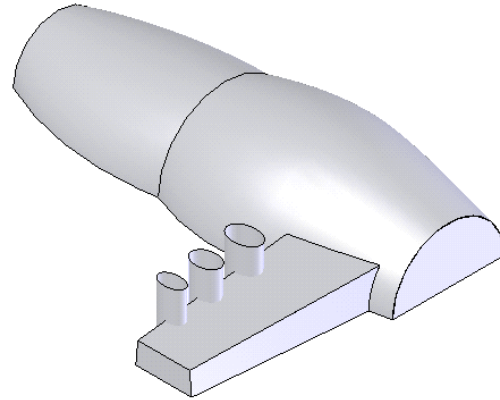

Figure 15-130 Resultant extruded surface
- Invoke the **Surface-Extrude PropertyManager** and extrude the sketch to the depth of **25mm**. The extruded surface is displayed in Figure 15-130.